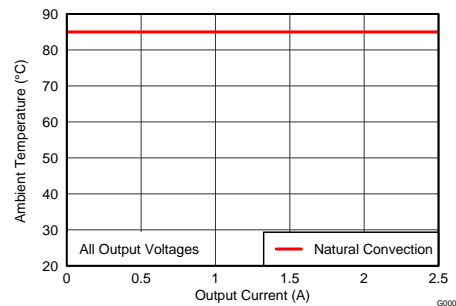

Figure 5. Safe Operating Area
- (2) The temperature derating curves represent the conditions at which internal components are at or below the manufacturer's maximum operating temperatures. Derating limits apply to devices soldered directly to a 100 mm x 100 mm double-sided PCB with 1 oz. copper. Applies to Figure 5.